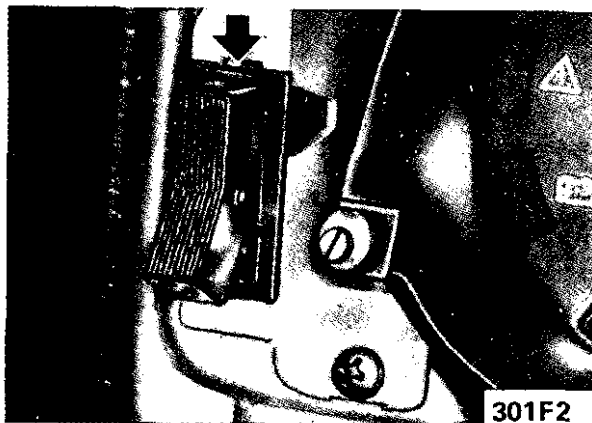

Figure 1F-2 • Removal of Fog Light or Heated Rear Glass Switch
2. Press down retaining clip and pull switch out. See Figure 1F-2.